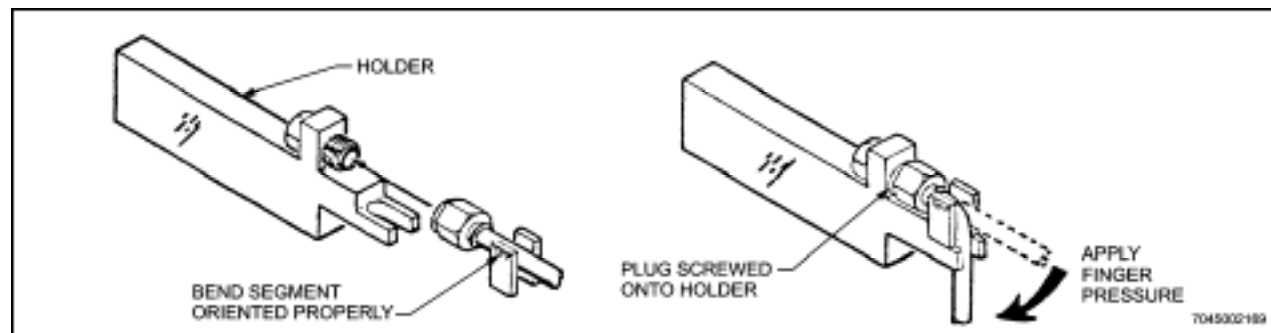

Figure 12-63 0.025 Inch Radius Bends on RG-402/U Cable and 0.125 Inch Radius Bends on RG-405/U Cable
48. Refer to Figure 12-63, and proceed as follows: